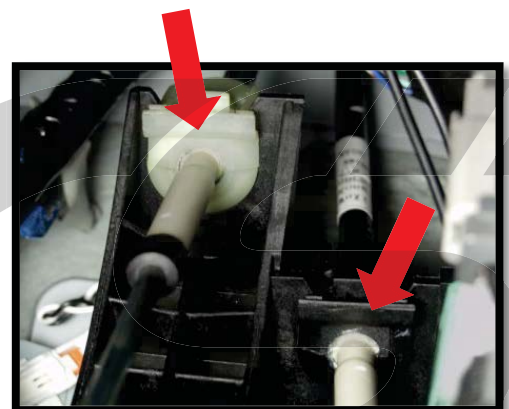

Figure 6b
- c) Clip the shift cables back into their locations in the shifter housing (Figure 6b).